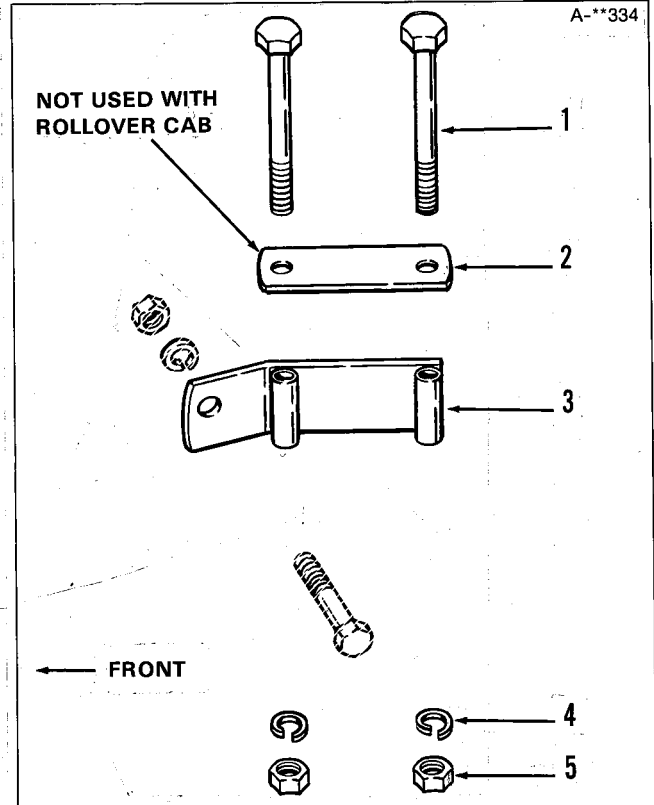
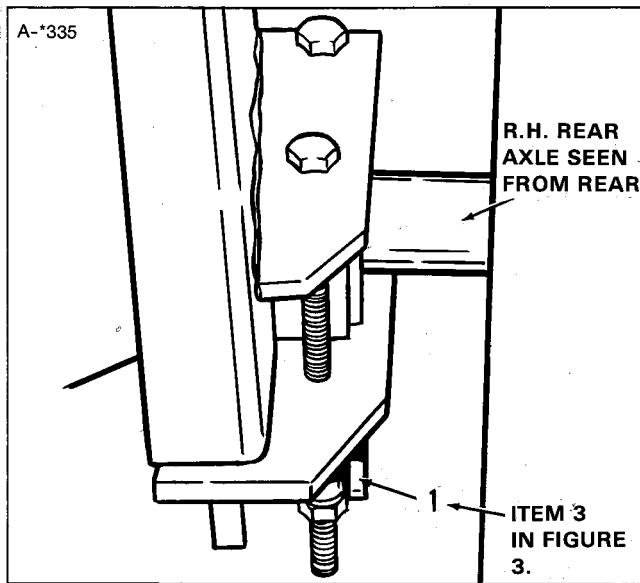
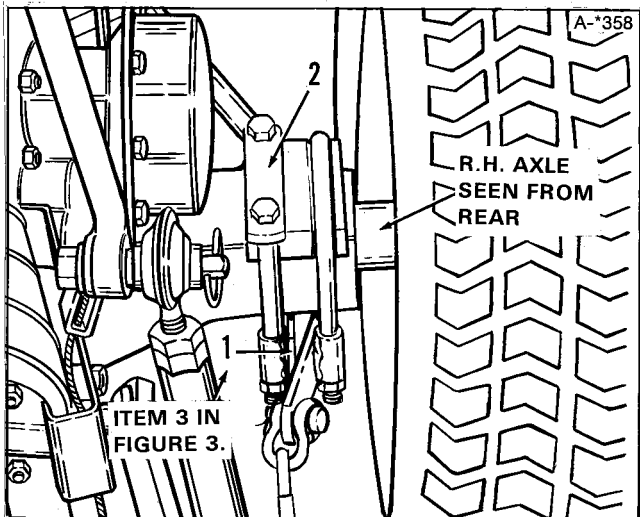
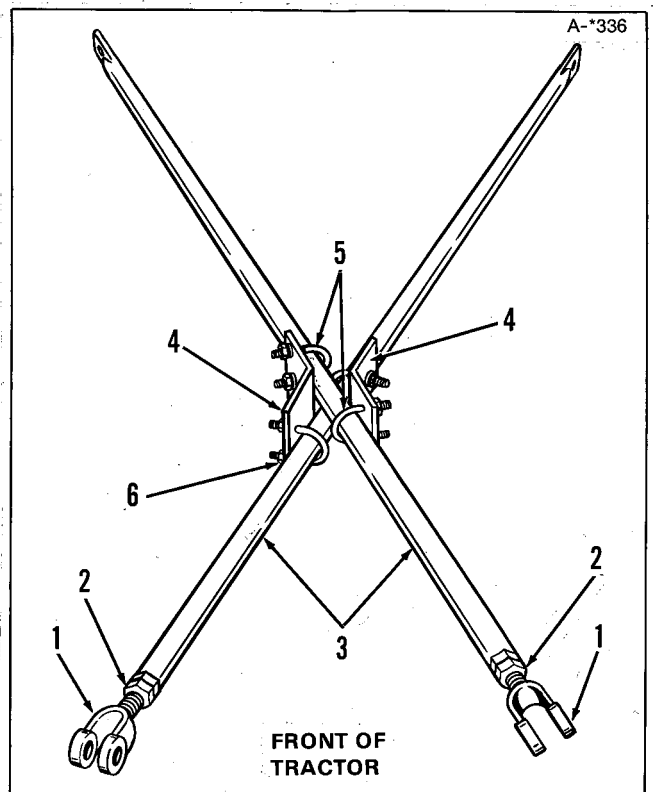

Figure 3.
Figure 4. (Shown with Rollover Cab)
Figure 5. (Shown without Rollover Cab)
Figure 6.
3. Install the brackets (3, figure 3) to each side of rear axle with parts shown; leave loose at this time. If a rollover cab is installed, do not use the bars (2) and install as in figure 4. If rollover cab is not installed, install parts as shown in figure 5.
4. Install cross tubes (3, figure 6) as follows.
- a. Position the tubes (3) under the tractor, so that tube that goes from R.H. rear wheel to left side of hitch is on top.
- c. Connect the rear ends of the tubes to the brackets (3, figure 3). Use one 1/2 x 1-1/4 capcrew, 1/2 lockwasher and 1/2 nut on each side. Thread tubes on yokes (1, figure 6) to achieve length. Tighten the capscrows.
- d. Tighten the bolts which secure the brackets (3, figure 3).
- f. Install the plates (4, figure 6) and U-bolts (5) as shown, to secure the tubes together.